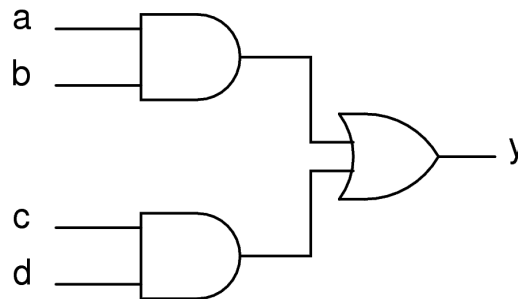
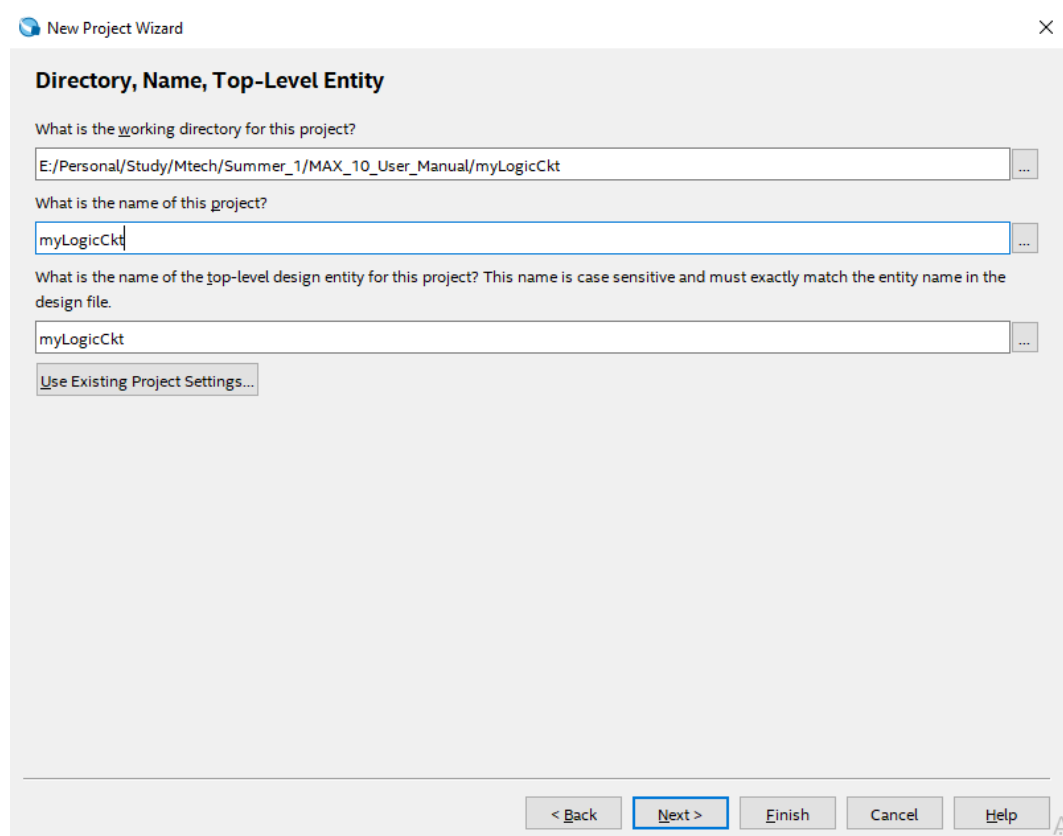

Figure 2: Example circuit to be implemented on Xen10
Figure 4: Quartus Project Directory info
Quartus II is the IDE provided by Altera for the user to write their HDL code (VHDL or Verilog) to target a digital system designed to be implemented on a target PLD (a CPLD or and FPGA). The IDE allows for code compilation, followed by generating a programming file for a specific target PLD. Quartus II has a free subscription/web edition that can be used. Suppose we wish to design and implement on Xen10 the simple logic circuit shown in Figure 2. This section provides a step-by-step method for doing the same.
3. This opens up 'Page 1'. Here, you need to specify a working directory for your project. Refer figure 4. Click Browse (...) to create a new folder for this project. Next specify the project name and top-level design entity. Important: This is a very critical step in your design. Top level design entity refers to the name of the entity in your HDL code (if you are using VHDL) or name of the module (if you are using Verilog) which you wish to implement. By default, the entity name follows the same name as the project. It is preferred not to change this. However, project name can be other than top-level entity name. Since, we wish to implement the circuit in Figure 2, name the project as myLogicCkt. The top-level entity is also named myLogicCkt by default. Click Next.